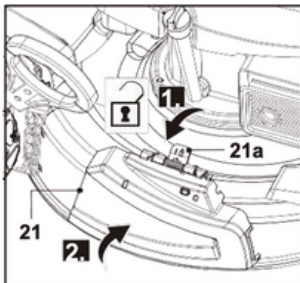

Fig. 18
2. Turn the locking latch (21a) down and hold it to unlock it (Fig. 18, step 1).
3. Open the side discharge guard (21) and hold it in this position (Fig. 18, step 2).